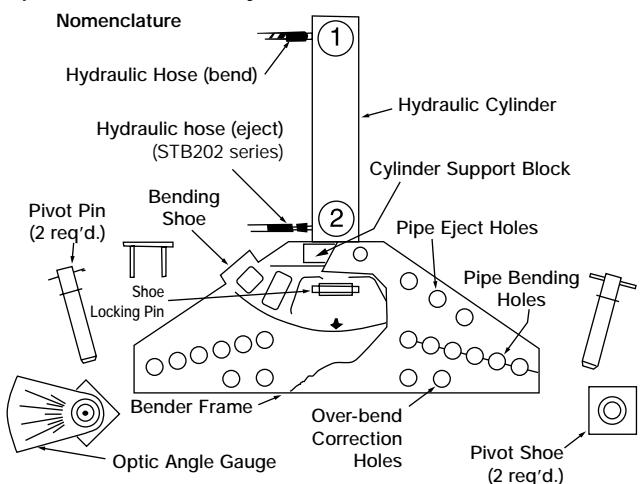

Figure 1, Bender Assembly
4.0 BENDER ASSEMBLY (see Figure 1)
- Attach hose(s) to pump valve. Connect hose (1) to cylinder port (1); hose (2) to cylinder port (2). NOTE: hose (2) is used with STB-202 series benders only.